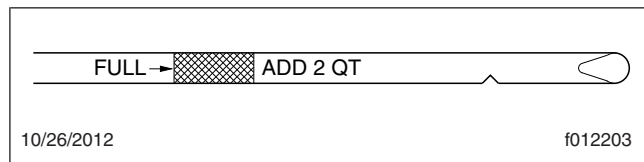
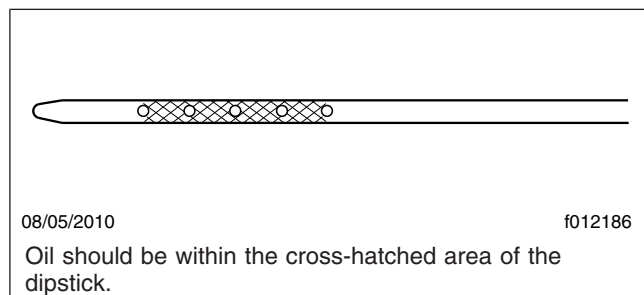

Fig. 11.4, Oil Dipstick (diesel engine)
Fig. 11.5, Oil Dipstick (gasoline and propane engines)
- 6.3 If the oil is below the cross-hatched area, or the add mark, at the tip of the dipstick, add at least one quart (liter) of the recommended oil. See Fig. 11.4 for diesel engines and Fig. 11.5 for gasoline and liquid propane gas (LPG) engines.